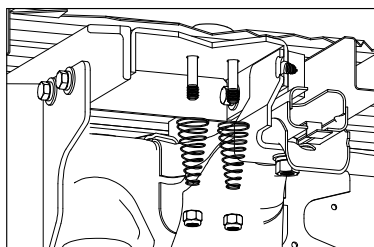

Figure H2: Cutaway view from under the bed.
3. **Add Springs.** Place a conical spring over each leg of the U-bolts and secure with a 1/2" lock nut. see Figure H2. Tighten the lock nut until the nut is flush with the end of the U-bolt.